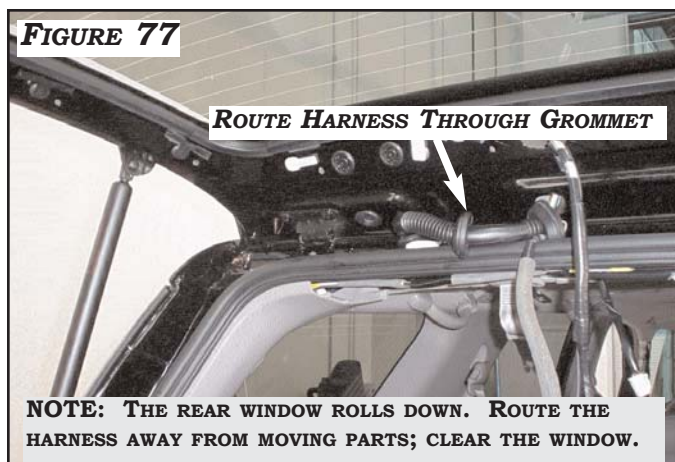

FIGURE 77
5. ROUTE THE TRUCK EXTENSION HARNESS FROM THE KICK-PANEL, UNDER B-PILLAR, AND REAR DOOR SCUFF PLATE. USE THE FACTORY WIRE CHANNELS AND RETAINING CLIPS. CONTINUE ROUTING HARNESS THROUGH PASSENGER SIDE REAR CARGO PANELS WITH THE EXISTING VEHICLE WIRING. **FIGURE 76.** ROUTE THE TRUCK EXTENSION HARNESS THROUGH THE EXISTING GROMMET AND INSIDE THE CARGO DOOR AS SHOWN IN **FIGURE 77**.